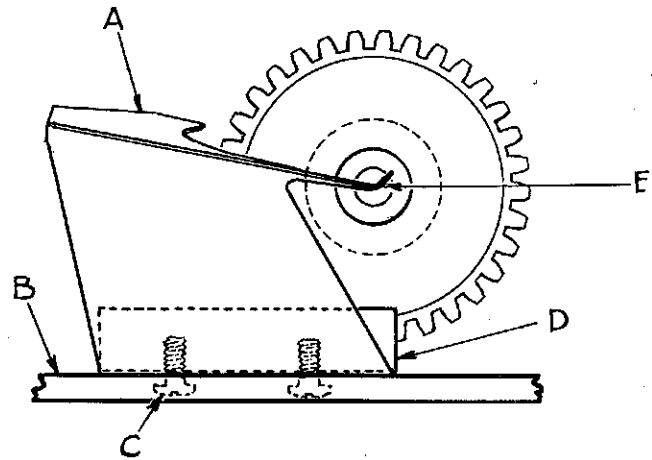

Fig. 3
Lubrication of most of the mechanism below the bed plate is automatically accomplished through the feed driving shaft which is tubular. Oil is introduced into the shaft at the gear end by means of an oil distributing plate (A, Fig. 3) which is secured to the large gear case cover (B) by means of two screws (C) and retaining block (D).